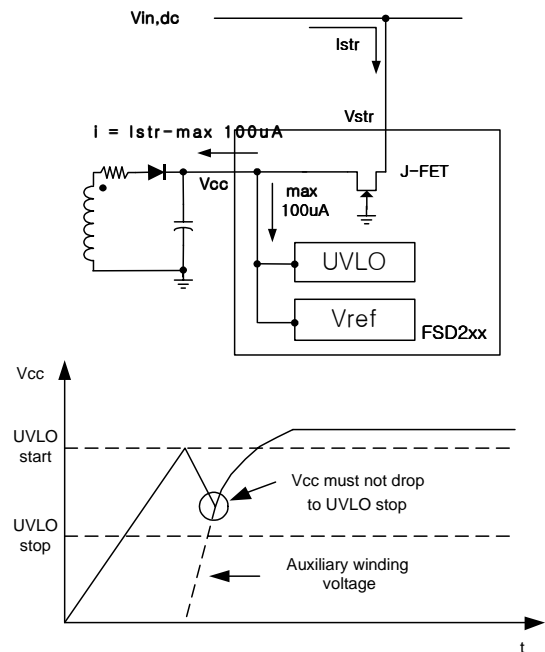

Figure 7. Charging the Vcc capacitor through Vstr
1. Startup : At startup, the internal high voltage current source supplies the internal bias and charges the external Vcc capacitor as shown in figure 7. In the case of the FSD210B, when Vcc reaches 8.7V the device starts switching and the internal high voltage current source is disabled (see figure 1). The device continues to switch provided that Vcc does not drop below 6.7V. For FSD210B, after startup, the bias is supplied from the auxiliary transformer winding. In the case of FSD200B, Vcc is continuously supplied from the external high voltage source and Vcc is regulated to 7V by an internal high voltage regulator (HVReg), thus eliminating the need for an auxiliary winding (see figure 2).